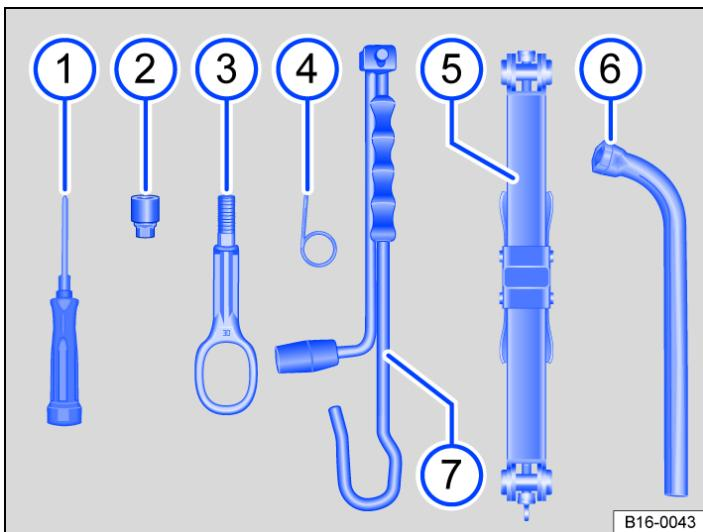

Fig. 1 Contents of the vehicle toolkit. (illustration)
- In a foam rubber holder → *Fig. 1 A* under the floor covering.
- In a container → *Fig. 1 B* under the floor covering.
- In both foam rubber holders next to or under the temporary spare wheel → *Fig. 1 C* underneath the floor covering.
Key to *Fig. 1*: